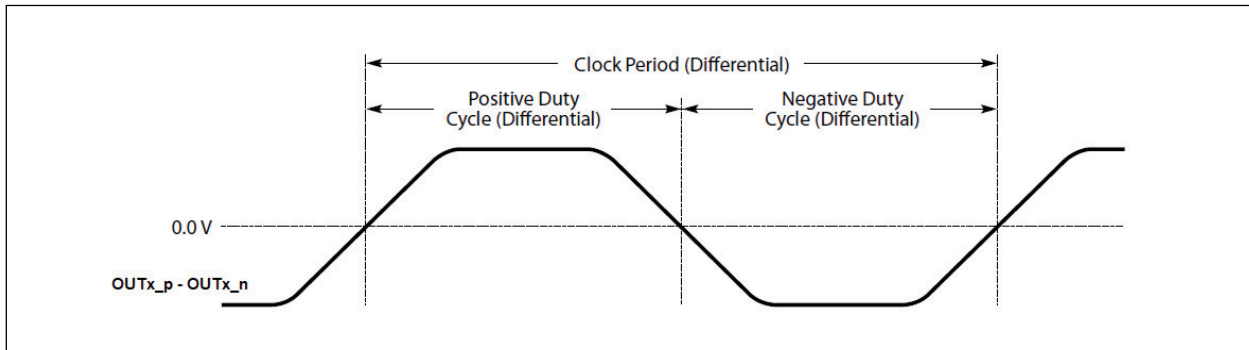

**FIGURE 1-2:** Single-Ended Measurement Points for Delta Cross Point.
**8:** Defined as the total variation of all crossing voltages of Rising OUTx\_p and Falling OUTx\_n. This is the maximum allowed variance in  $V_{CROSS}$  for any particular system. See Figure 1-2.